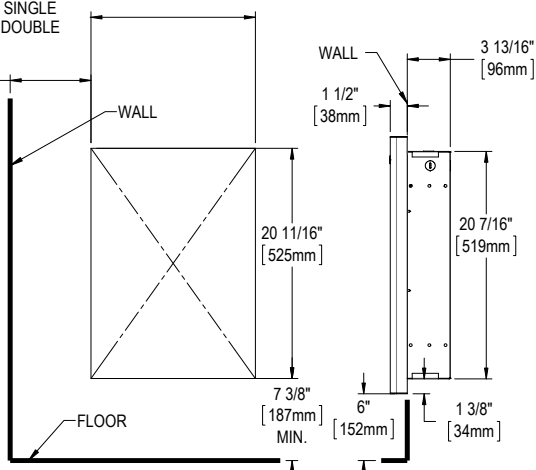

Figure 3: Opening
2. Triple units must meet a minimum distance of 12 inches (305 mm) from surrounding walls and 8 inches (203 mm) from the floor. For recessed installation opening for triple units, see figure 3.